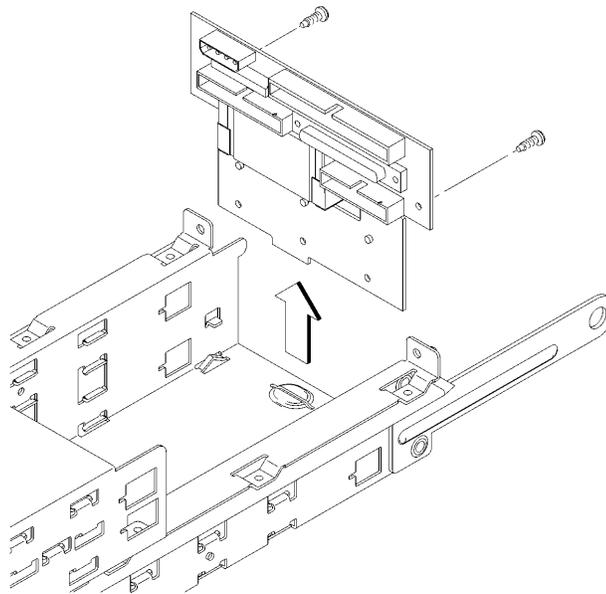

Figure 34
- 1 Remove the two retaining screws from the disk interconnect board, as shown in Figure 34.
- 3 Hold the disk interconnect board on the edges and lift it straight up to remove it, as shown in Figure 34.